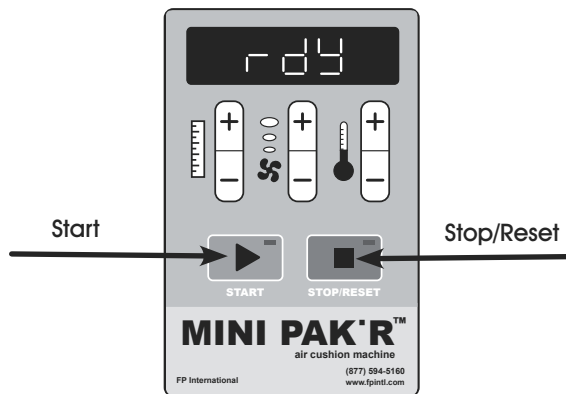

Figure 9
- Press **START** button to begin making air cushions. (See Figure 9)